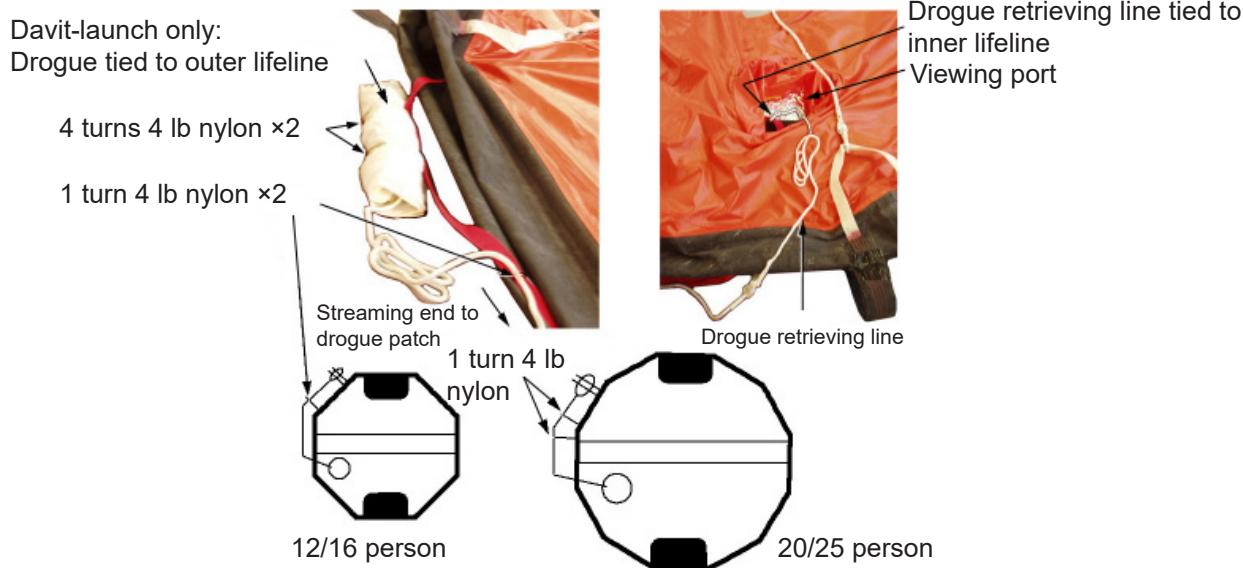

FIGURE 809
- 2.14 Tie the drogue streaming line of the drogue patch, adjacent to the viewing port. Use a bowline knot and secure the flying end with 25 mm (1") wide tape. Refer to FIGURE 809.
FOR DAVIT-LAUNCH: Tie in the rolled drogue to the outer lifeline close to the rear door. Refer to FIGURE 809. Use 4 turns of 4 kg nylon breaking thread and a reef knot. Carefully cut and discard the elastic bands.
Refer to FIGURE 809.
- 2.15.2 Tie the remaining end of the drogue retrieving line to the inner lifeline. Refer to FIGURE 809. Access the inner lifeline through the viewing port. Use a bowline knot and tape the flying end.